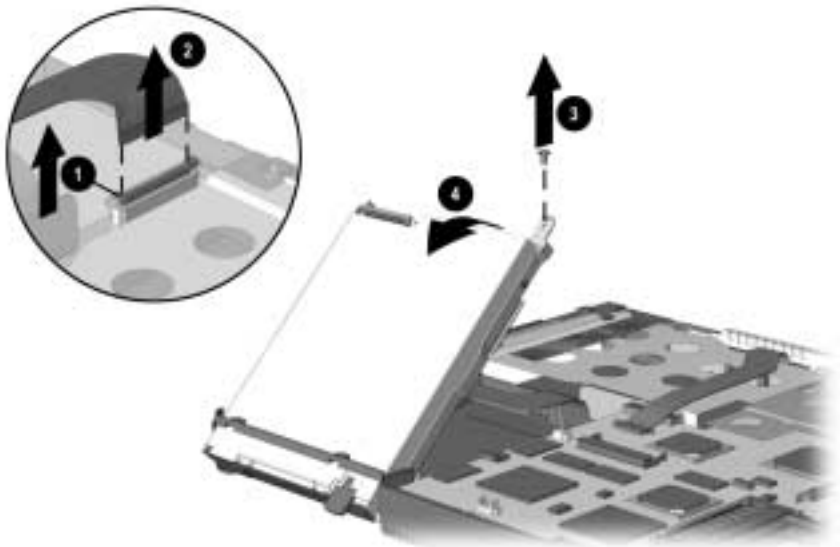

Figure 5-23. *Removing the Diskette Drive*
2. Release the ZIF connector that connects the diskette drive ❶ (Figure 5-23).
3. Disconnect the diskette drive cable ❷.
4. Remove the screw that secures the diskette drive to the base enclosure ❸.
5. Lift up on the back of the diskette drive ❹ and remove it.